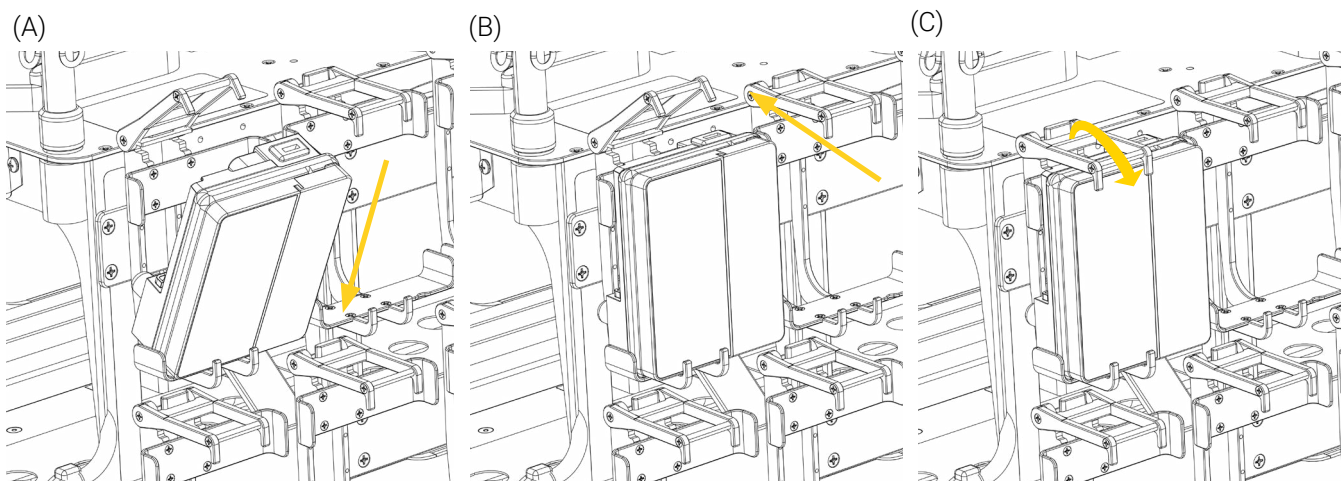

Figure 15: Installing the Baxter infusion pump
2. Insert the pump at an angle in the bracket (Figure 15 A).
3. Tilt the pump in an upright position, ensuring that it is centered inside the bracket (Figure 15 B)
4. Lower the top part of the bracket over the pump, then press down on the top until the locking mechanism of the bracket is engaged (Figure 15 C).